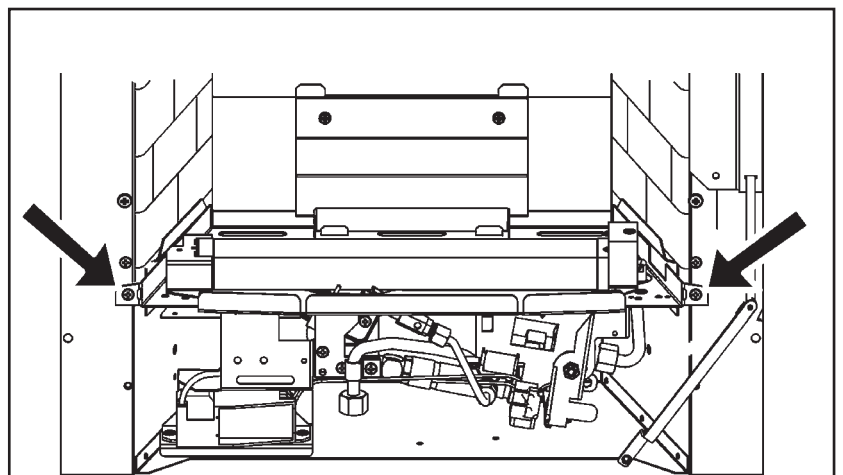

Figure 12. Burner attachment points
3. Detach the burner unit from the convection box by removing two screws (See figure 12). Lift the burner unit clear.